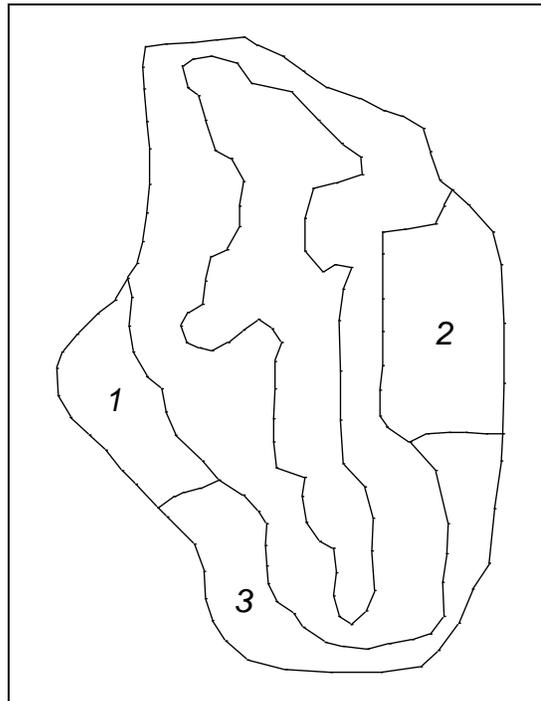

Figure 11 Polygons to be selected
2. Using the **Select Polygons**  tool while holding the *Shift* key, select polygons 1 and 2 as shown in Figure 11.
6. Double-click on polygon 3 as shown in Figure 11 to open the *Attribute Table* dialog.